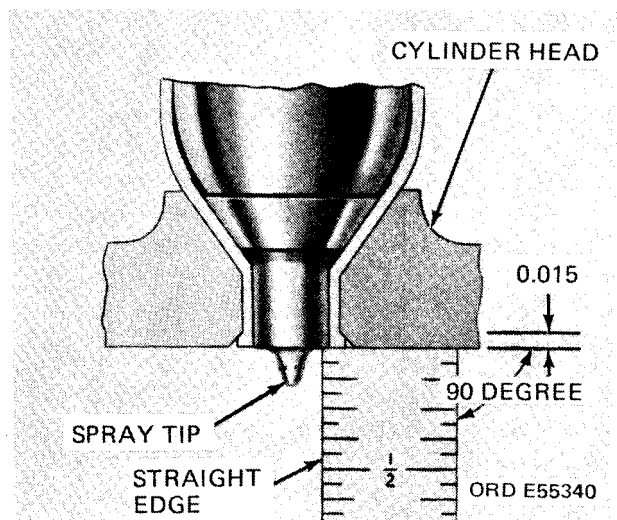

Figure 3-86. Checking location of fuel injector spray tip relative to lower surface of cylinder head.
1. Install the injector assembly in the cylinder head to determine the amount of stock that must be removed from the bevel seat of the injector tube. Note the relationship between the numbered surface of the spray tip to the fire deck of the cylinder head as illustrated in figure 3-86.
an injector for a gage (fig. 3-86), continue the reaming operation until the shoulder of the spray tip is either flush or extends a maximum of 0.015 inch below the fire deck of cylinder head as illustrated in figure 3-86.